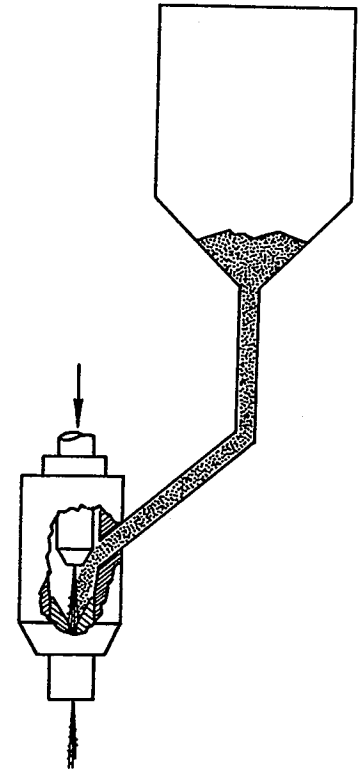

Figure 24.
13.2 Abrasive Feed System - System that includes a storage vessel or hopper for the abrasive, a hose or tube to carry the abrasive to the point where it is inserted into the waterjet, and a device for inserting the abrasive into the waterjet stream (Figure 24).